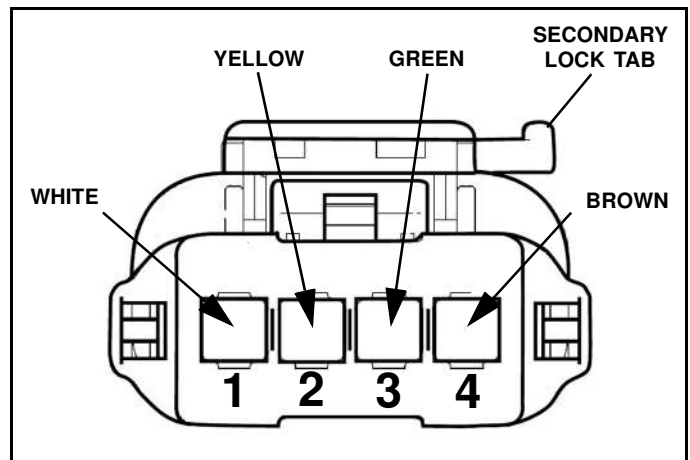

Figure 1-9
9. Remove blue pin lock from female connector. Push the pins on the end of each of the four wires into the back side of the connector (the end with recessed light blue seal). (See Figure 1-9 for pinning).
10. Verify wire placement by connecting the ProControl II™ harness. If wire colors do not line up, verify pin placement (See Figure 1-9).